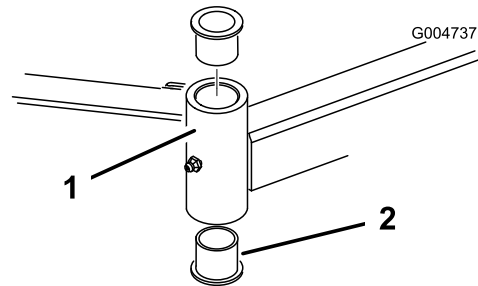

Figure 83
4. Insert a pin punch into the top or bottom of the mounting tube and drive the bushing out of the tube (Figure 83).